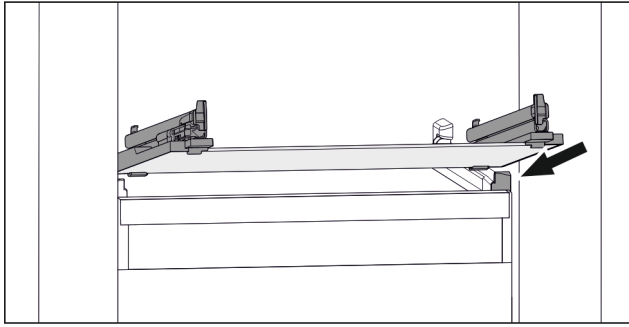

Fig. 47 Example illustration of glass shelf
- Position glass shelf at an angle behind the stoppers. (see Fig. 47)